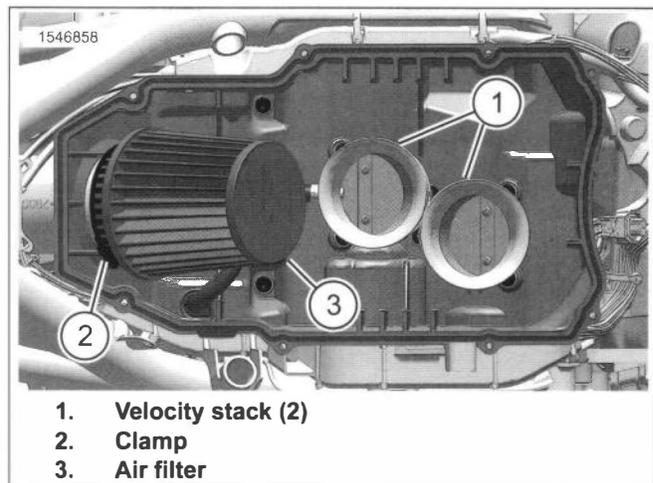

Figure 2-36. Air Filter Maintenance
1. See Figure 2-36. Remove air filter.
- a. Cover velocity stacks (1) with clean rags.
- b. Loosen clamp (2).
- c. Remove air filter (3).
3. See Figure 2-36. Install air filter.
- a. Install air filter (3).